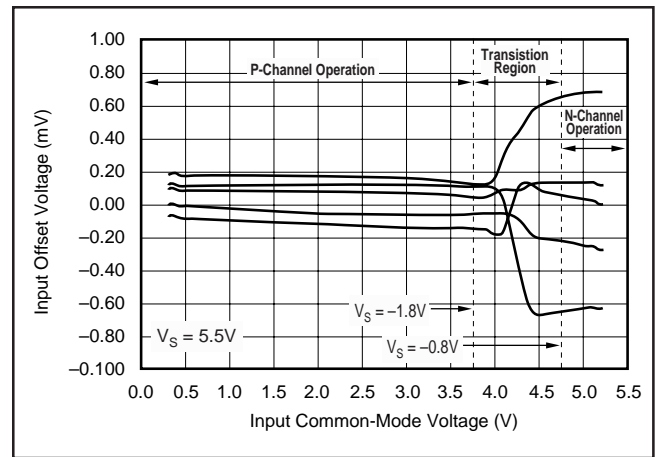
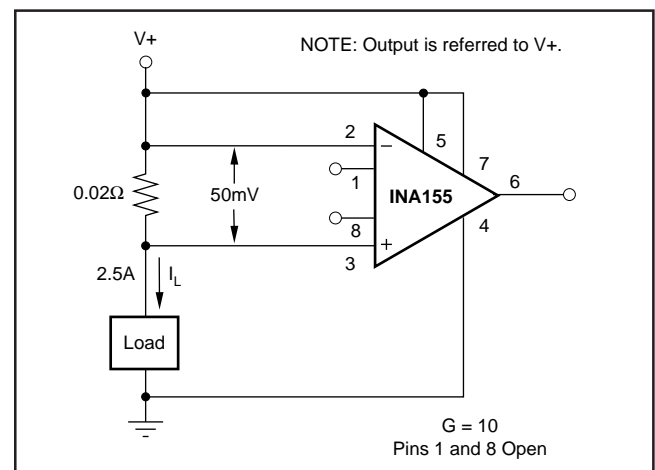

FIGURE 6. Input Offset Voltage Changes with Common-Mode Voltage.
FIGURE 7. Single-Supply, High-Side Current Monitor.
NOTES: (1) For further information, refer to typical performance curves on common-mode input range. (2) Operation above $(V+) - 1.8V$ (max) results in reduced common-mode rejection. See discussion and Figure 6 in the text of this data sheet. (3) Does not include error and TCR of additional optional gain-setting resistor in series with R_G , if used.
The internal amplifiers have rail-to-rail input stages, achieved by using complementary n- and p-channel input pairs. The common-mode input voltage determines whether the p-channel or the n-channel input stage is operating. The transition between the input stages is gradual and occurs between $(V+) - 1.8V$ to $(V+) - 0.8V$. Due to these characteristics operating the INA155 with input voltages within the transition region of $(V+) - 1.8V$ to $(V+) - 0.8V$ results in a shift in input offset voltage and reduced common-mode and power supply rejection performance. Typical patterns of the offset voltage change throughout the input common-mode range are illustrated in Figure 6. The INA155 can be operated below or above the transition region with excellent results. Figure 7 demonstrates the use of the INA155 in a single-supply, high-side current monitor. In this application, the INA155 is operated above the transition region.